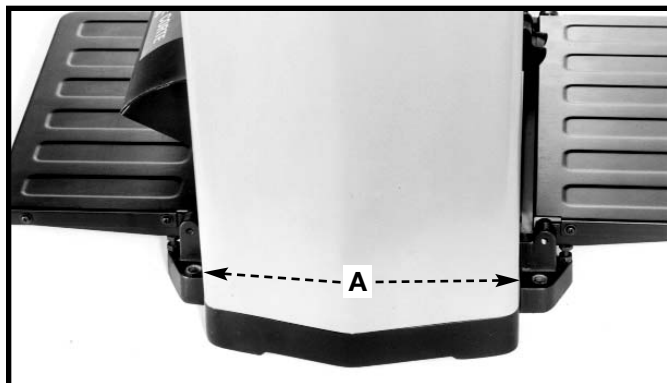

Fig. 9
During operation, if there is any tendency for the planer to tip over, slide or “walk” across the supporting surface, the planer must be secured to the supporting surface through the four holes in the base, two of which are shown at (A) Fig. 9.